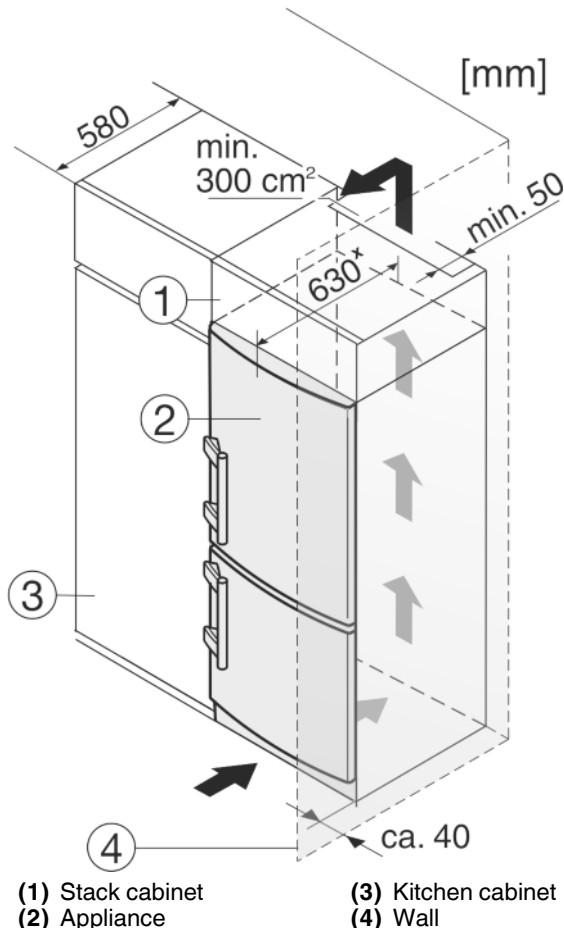

Fig. 9
The appliance can be inserted into a row of kitchen units. To match the appliance Fig. 9 (2) to the height of the row of units, a suitable stack cabinet Fig. 9 (1) can be fitted above the appliance.
When installing with kitchen units (max. depth 580 mm), the appliance can be positioned directly next to the kitchen cabinet Fig. 9 (3). The appliance will project by 34 mm* at the sides and 50 mm* in the centre of the appliance in relation to the kitchen cabinet front.
If the appliance is installed with the hinges next to a wall Fig. 9 (4), the distance between appliance and wall has to be at least 40 mm. This corresponds to the projection of the handle when the door is open.